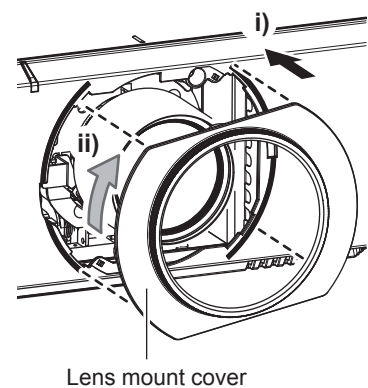

Fig. 3
- 3) Attach the lens mount cover. (Fig. 3)